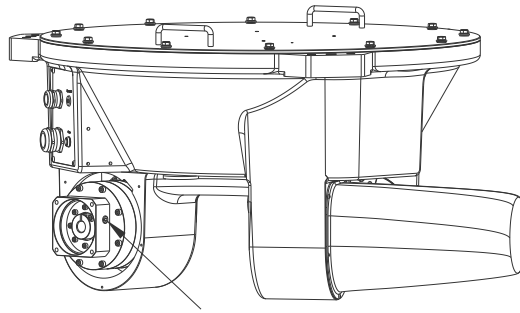

Figure 3-21 Shows the direction of the top screw of the reducer
Step 3 Replace the new reducer. The direction of the top screw of the reducer is shown in Figure 3-21. Tighten 12 M6x20 screws with a locking torque of 12N·m. Thread glue should be applied when the screws are tightened.